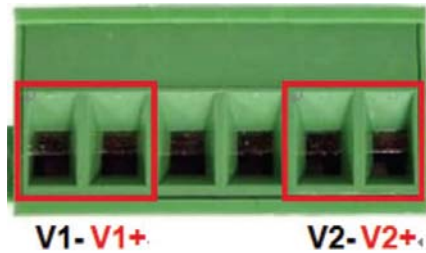

Figure 13. Power Terminal Block
1. Insert the positive and negative wires into the PWR1 (V1+, V1-) and PWR2 (V2+, V2-) contacts on the terminal block connector as shown in figure 13 on page 19.